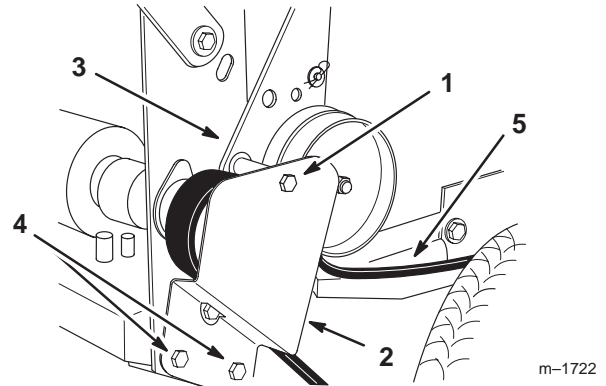

Figure 60
1. Remove the top capscrew securing idler support and idler bracket to rear frame (Fig. 60).
2. Loosen bottom two mounting screws enough to allow belt to pass between drive pulley and idler support (Fig. 60).
5. Install the top capscrew securing the idler support and idler bracket to the rear frame (Fig. 60).
6. Tighten the bottom two mounting screws enough to allow the belt to pass between the drive pulley and idler support (Fig. 60).